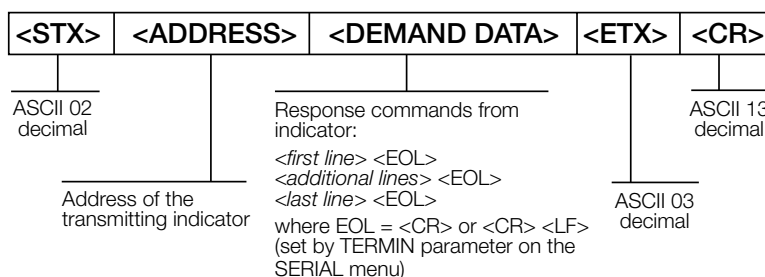

Figure 13-4. RS-485 Respond Data Format
*Example, with demand outputs, or in response to an XG#1 command, the responding indicator uses the format shown in Figure 13-4:*
The indicator responds with the format shown in Figure 13-4 on page 139: